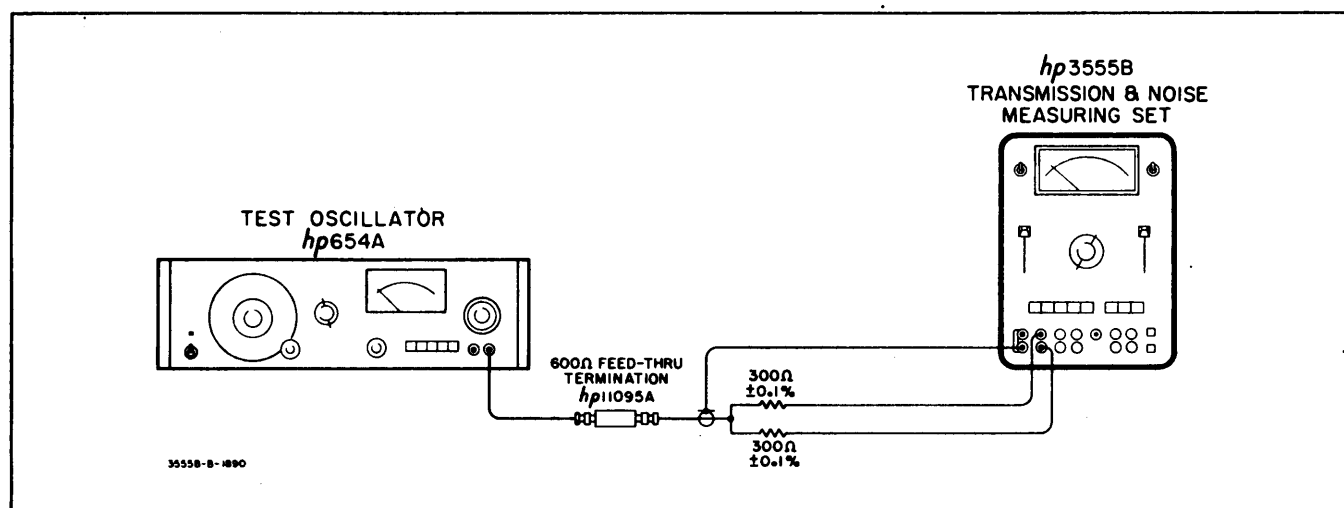

Figure 5-7. Input Balance Test Set-Up
- c. Change the equipment setup to that shown in Figure 5-7.